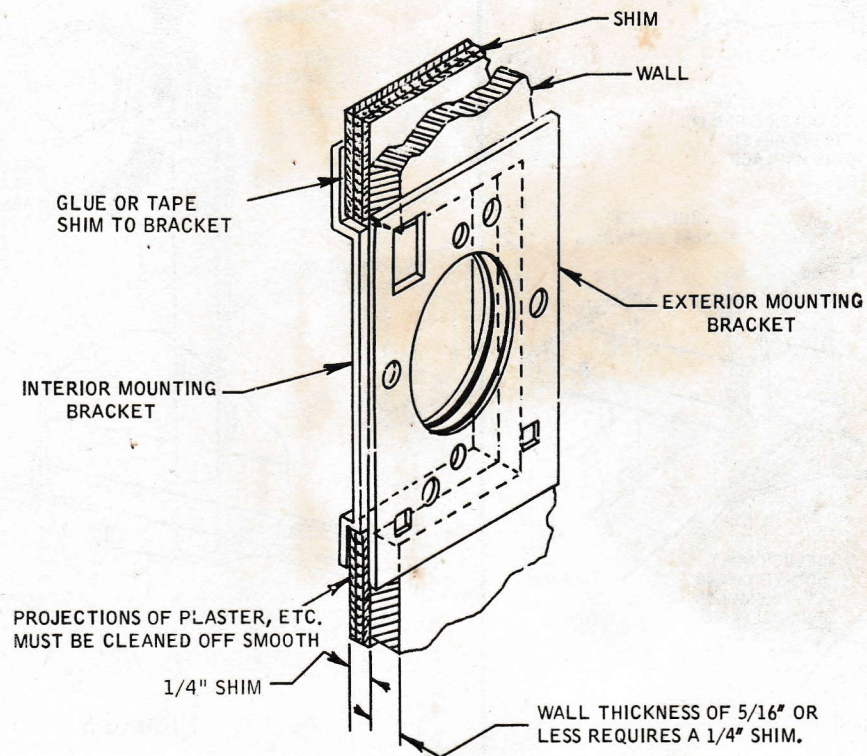

FIGURE 8
10. On walls of thickness 5/16" or less, shims should be added at top and bottom edges of the wall opening. These may be glued in place per Figure 8.